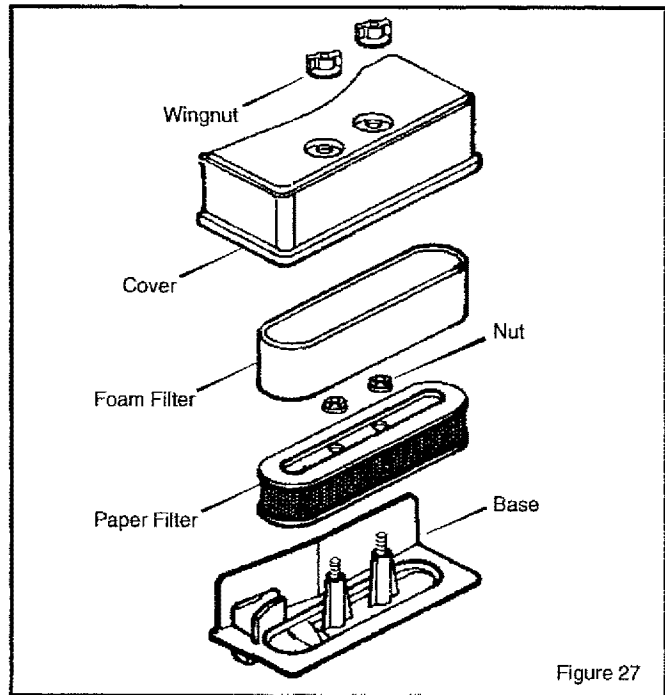

Figure 27
1. Remove the two **wingnuts** from the **cover** (Figure 27)